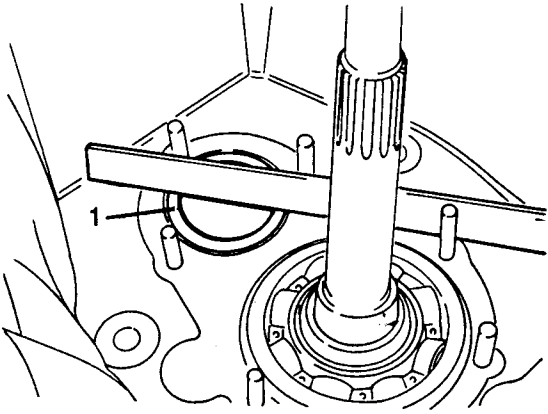

Fig H1.79
- (3) Refer to Fig H1.79. Fit the layshaft front bearing outer track (1) in such a way that this is level with the inside front face of the clutch casing.
- (4) With the clutch casing in a downward perpendicular position, fit the layshaft supported by its front bearing.
- (5) Fit the mainshaft assembly in such a way that the mainshaft gears are perfectly aligned and spin freely.
- (6) Fit the gearbox housing (see Sub-sub-section H1.3, Chapter 13) but do not fit the cover assembly, forks and selector shafts.
- (7) Position the complete gearbox assembly with the clutch housing upwards.
- (8) Calculate the thickness of the required adjusting washers (see Sub-sub-section H1.3, Chapter 7, para 3, steps (3) to (8)).
- (9) Fit the clutch mechanism together with the primary pinion washers which were removed when stripping, and fit those that were calculated for the layshaft front bearing outer track.
- (10) Fit the complete gearbox assembly to the vehicle (see Sub-sub-section H1.3, Chapter 1).